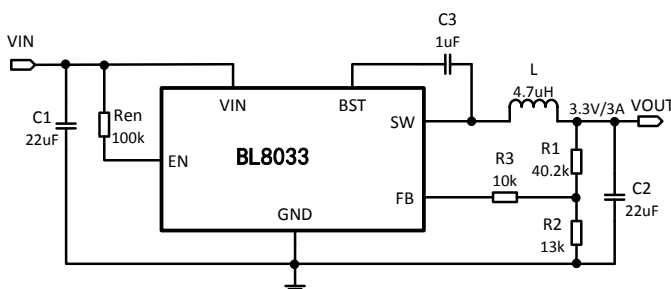

Figure 1.
2) The resistance R3 in Figure 1 makes the loop more stable. If it isn't used, the resistance R1, R2 should be adjusted (See Figure 2.). The value of R1 is recommended to be about 300kΩ.